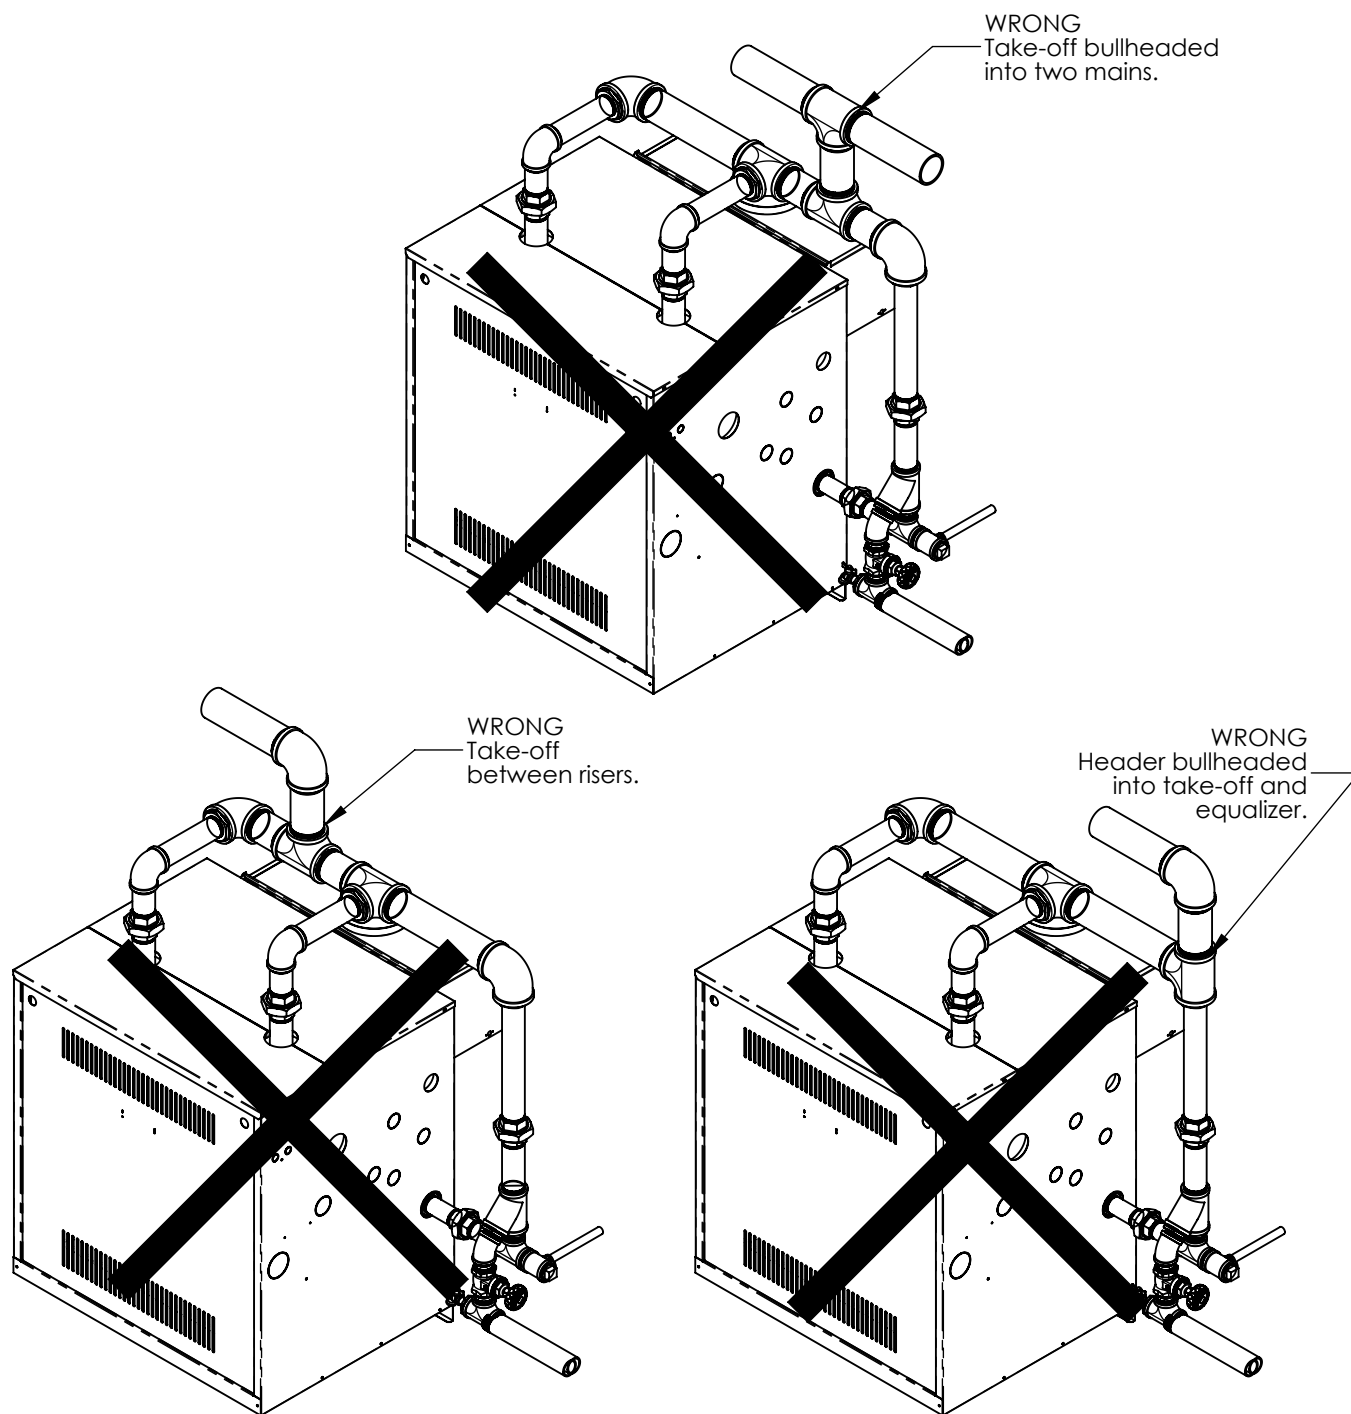

Figure 7-1: Common Near Boiler Piping Mistakes
Avoid three common piping mistakes shown in Figure 7-1. This applies even if existing boiler has one of the piping mistakes shown in Figure 7-1 and appears to be working. If two or more steam mains must be connected to boiler, connect a separate take-off for each main into the header between riser(s) and equalizer. Also note the following points:
8. A second system supply tee may be installed adjacent to the first supply tee. Both supply tees are to be located after the riser(s) but before the equalizer line. See Figure 7-1 for common near-boiler piping mistakes.